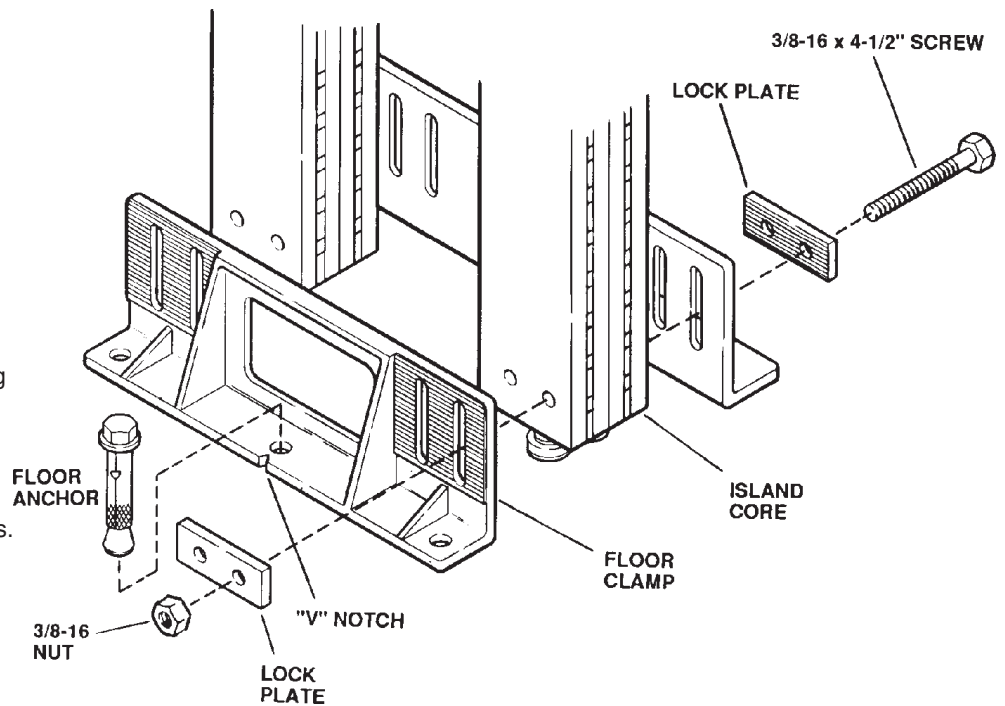

Figure 1
3. Place first core in position, level it and attach floor clamp castings. Align "V" notch in castings with chalk line on floor. See Figure 1.